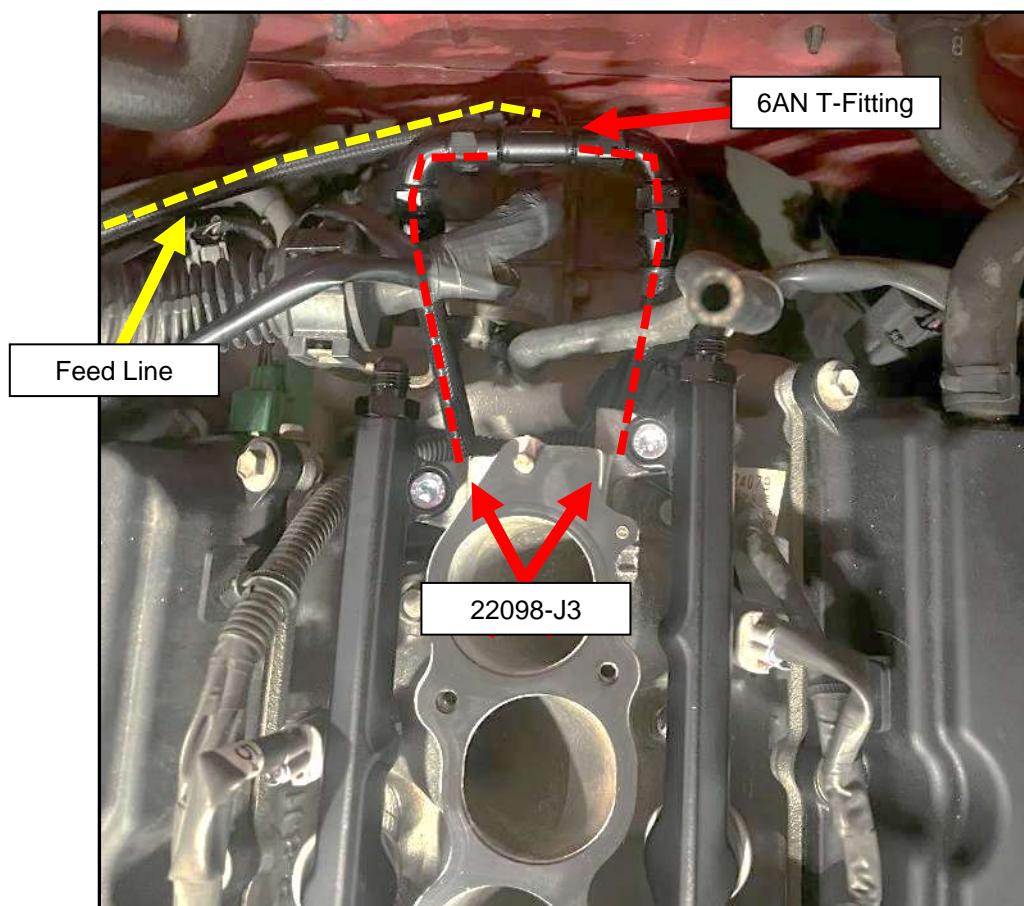

Figure 46
16. Install either side of both **22098-J3** lines onto the dual side of the 6AN T-Fitting. *Figure 46.*